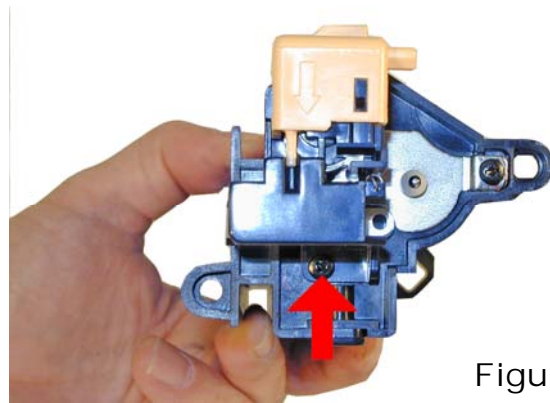

Figure 29
26) Remove the single screw from the handle end cap. See **Figure 29**